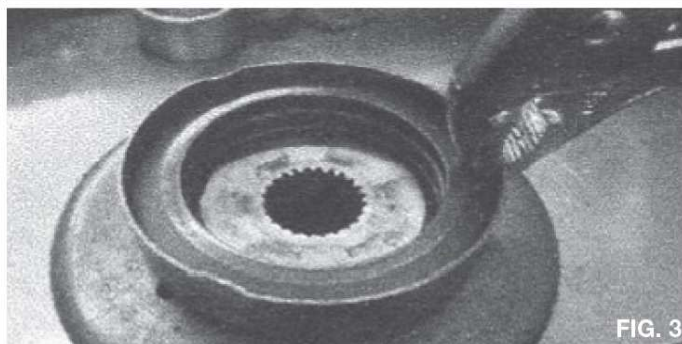

FIG. 3
7. Bend back one of the three crimps that retain the Belleville spring pack (figure 3).